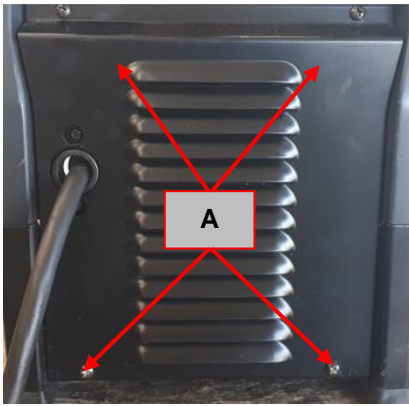

Figure 42
4. Using the PH02 screwdriver remove the 4 screws (**A**) that are fixing the fan grid. See **Figure 42**